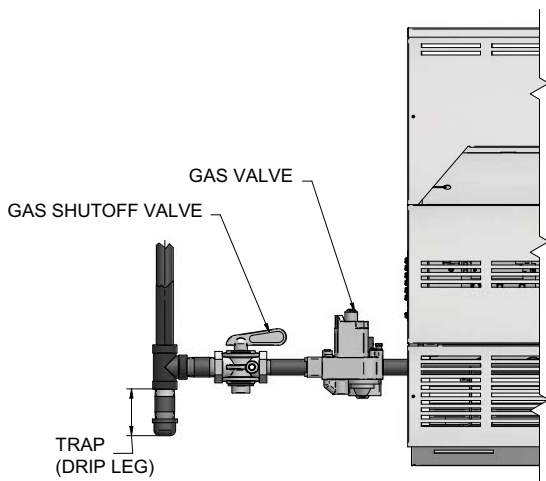

Figure 3-1 Gas Line Connection
3. Installation of a union is suggested for ease of service, see FIG. 3-1 on page 19.
5. A trap (drip leg) **MUST** be provided by the installer in the inlet of the gas connection to the appliance, see FIG. 3-1 on page 19.
All gas connections must be made with pipe joint compound resistant to the action of liquefied petroleum and natural gas. All piping must comply with local codes. Tubing installations must comply with approved standards and practices. Reference FIG. 3-1 for a typical installation.